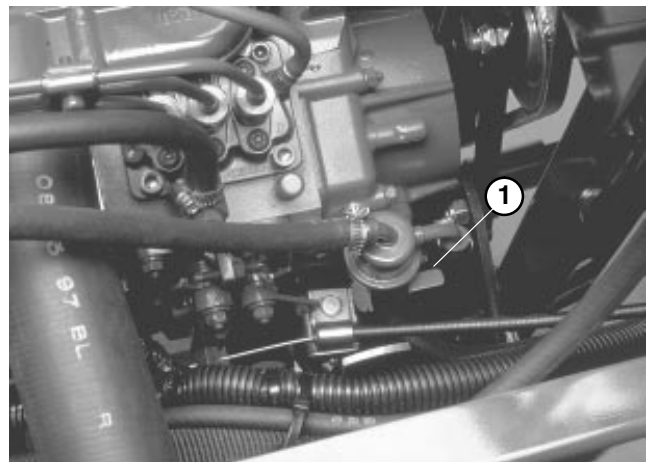

Figure 29
3. Pump lever on fuel pump (Fig. 29) until a solid stream of fuel flows out around screw. Tighten air bleed screw.
5. Pump lever on fuel pump (Fig. 29) until a solid stream of fuel flows out around screw on fuel injection pump. Tighten air bleed screw.